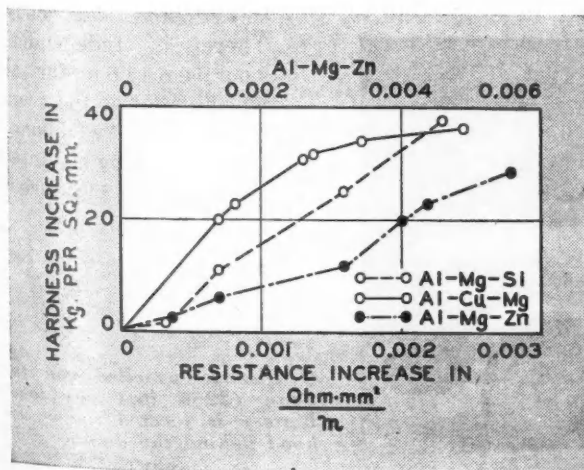

Fig. 4. Increase in hardening during aging in connection with the increase in resistance.
**Fig. 4—Etched photomicrograph of a stainless steel exhaust manifold section which had been in service 100 hr. This picture shows a progressive precipitation of carbides from the inside surface of the manifold.**
Further considerations are being given to the possibility of carbon absorption during the service life of exhaust manifolds. Photomicrograph, Fig. 4, shows the cross section of the body on a manifold which had been in service for 100 hr. It is quite apparent that there is a relationship between the time in service and the type and distribution of carbides, dependent upon the service conditions. In connection with this, we have found that sections taken from the manifolds which have been in service and subjected to the copper-sulfate-sulfuric acid solution show up to a 20 per cent greater loss in thickness due to corrosion by the electrolytes after 48 hr than will be obtained under service conditions up to 4000 hr. It is from these tests that we conclude that there is no correlation between the required accelerated corrosion tests as outlined by specification and actual service conditions. Some type of corrosive test is necessary to determine the susceptibility of the various grades of stainless steel to carbon precipitation, but it not necessarily follow that if these materials should fail after being tested in strong electrolytes they will not give excellent service under operating conditions. Such tests are of little value if they cannot be correlated with conditions of service.